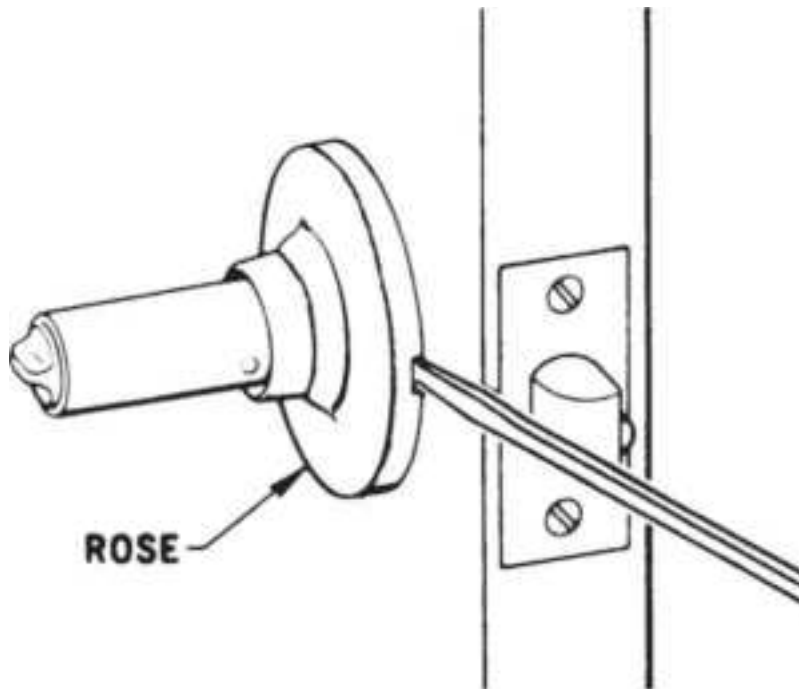

**Figure 13.15** Unsnapping rose from rose liner.
2. Unsnap the rose from the rose liner (Fig. 13.15 ).